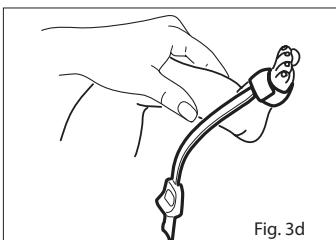

Fig. 3d
- Refer to Fig. 3d. Verify correct positioning and reposition if necessary.